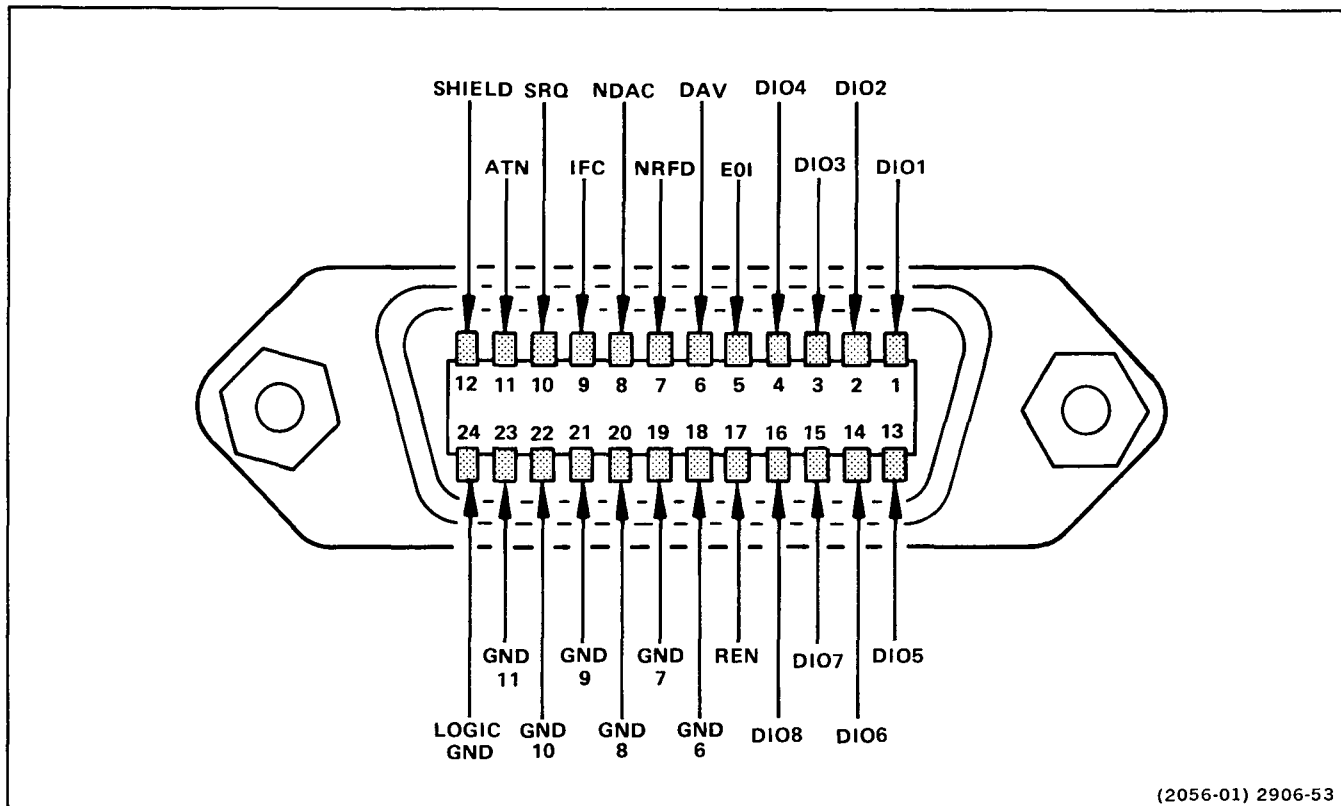

Figure 3-9. GPIB Connector pin arrangement.
- (49) **GPIB Connector**—Provides a data output port with the IEEE-488 data bus. The electrical and physical arrangement of the 24 pin connector conforms to the IEEE General Purpose Interface Bus Standard. Refer to Figure 3-9 for an illustration of the connector and pin assignments.
- (50) **Detachable-Power-Cord Receptacle**—Provides the instrument connection point to the appropriate ac voltage.
- (51) **LINE VOLTAGE SELECTOR Switch**—Selects the nominal operating voltage for the instrument. When set to 115V, the instrument operates from a power source range of 90 V to 132 Vac. When set to 230V, the instrument operates from an input voltage range of 180 V to 250 Vac.
- (52) **Fuse Holder**—Contains the primary ac power-source fuse.
- (53) **PLOTTER PEN LIFT Connector**—Provides access to a relay contact which either opens or closes for proper pen operation when interconnecting the 2430 to an external XY Plotter. Either a TTL-level HI or LO is available. (See Item 24 "OUTPUT" in the External Interface part of this section.)
- (54) **PLOTTER X OUTPUT and Y OUTPUT Connectors**—Provide analog X-axis and Y-axis drive signals for use with an external XY Plotter. Output amplitude is approximately 200 mV per division with an output impedance of about 1 kΩ.